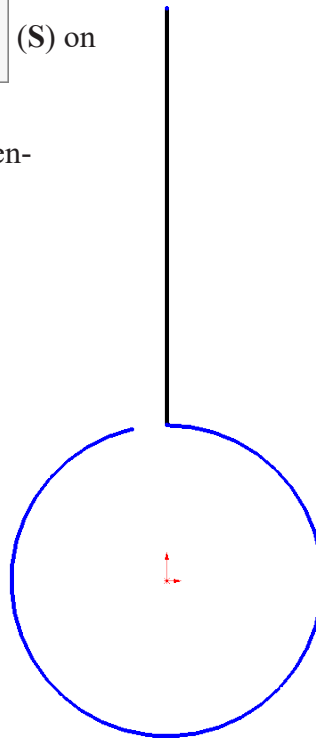
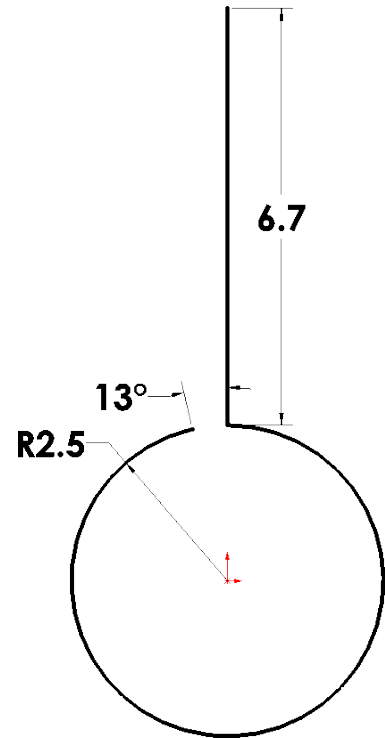

Fig. 3
Fig. 4
Step 5. Click **Line** (L) on the Sketch toolbar.
Step 6. Sketch line up from arc endpoint that is directly above Origin, **Fig. 3**.
Step 7. Click **Smart Dimension** (S) on the Sketch toolbar.
Step 8. Add dimensions, **Fig. 4**. To dimension angle between the two arc endpoints, click Origin for vertex of angle and then click the two arc endpoints. Move the cursor and click to place dimension. Key in 13 and press ENTER.